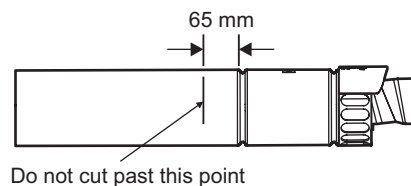

Fig. 5.12
5.8 REDUCING THE FLUE - Fig. 5.12
When the flue length required is less than the minimum stated in Section 5.7, paragraph 1, refer to Fig. 5.12.